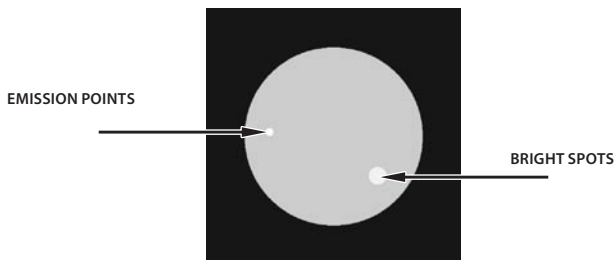

Figure 3-5. Bright Spots and Emission Points
(1) Bright Spots. A bright spot is a small, non-uniform, bright area that may flicker or appear constant (Figure 3-5). Not all bright spots make the PVS-14 returnable. Cup your hand over the objective lens to block out all light. If the bright spot remains, you will need to return the PVS-14 to the manufacturer. Bright spots typically disappear when all light is blocked out. Verify that any bright spots are not simply a bright area in the scene you are viewing. Bright spots are acceptable if they do not interfere with the operator's ability to view the image or to perform the mission.
(2) Emission Points. A steady or fluctuating pinpoint of bright light in image area that does not go away when all light is blocked from the objective lens of the monocular (Figure 3-5). The position of an emission point within the image area does not move.